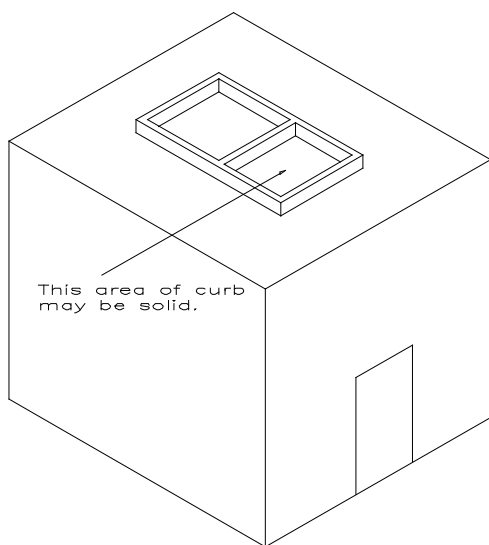

Figure 4. Curb placed on roof of box.
1. Units must be curb mounted ( Figure 4 ~ 5 ). Cabinet size refer to dimension size on page 5.